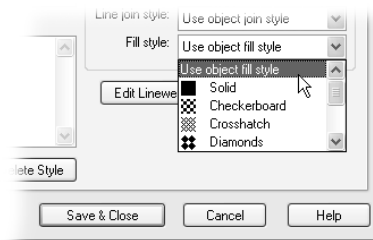

Figure 12.29
**Fill Style** This option lets you set up a color to be drawn as a pattern when used in a solid-filled area. The patterns appear in the drop-down list, as shown in Figure 12.29.